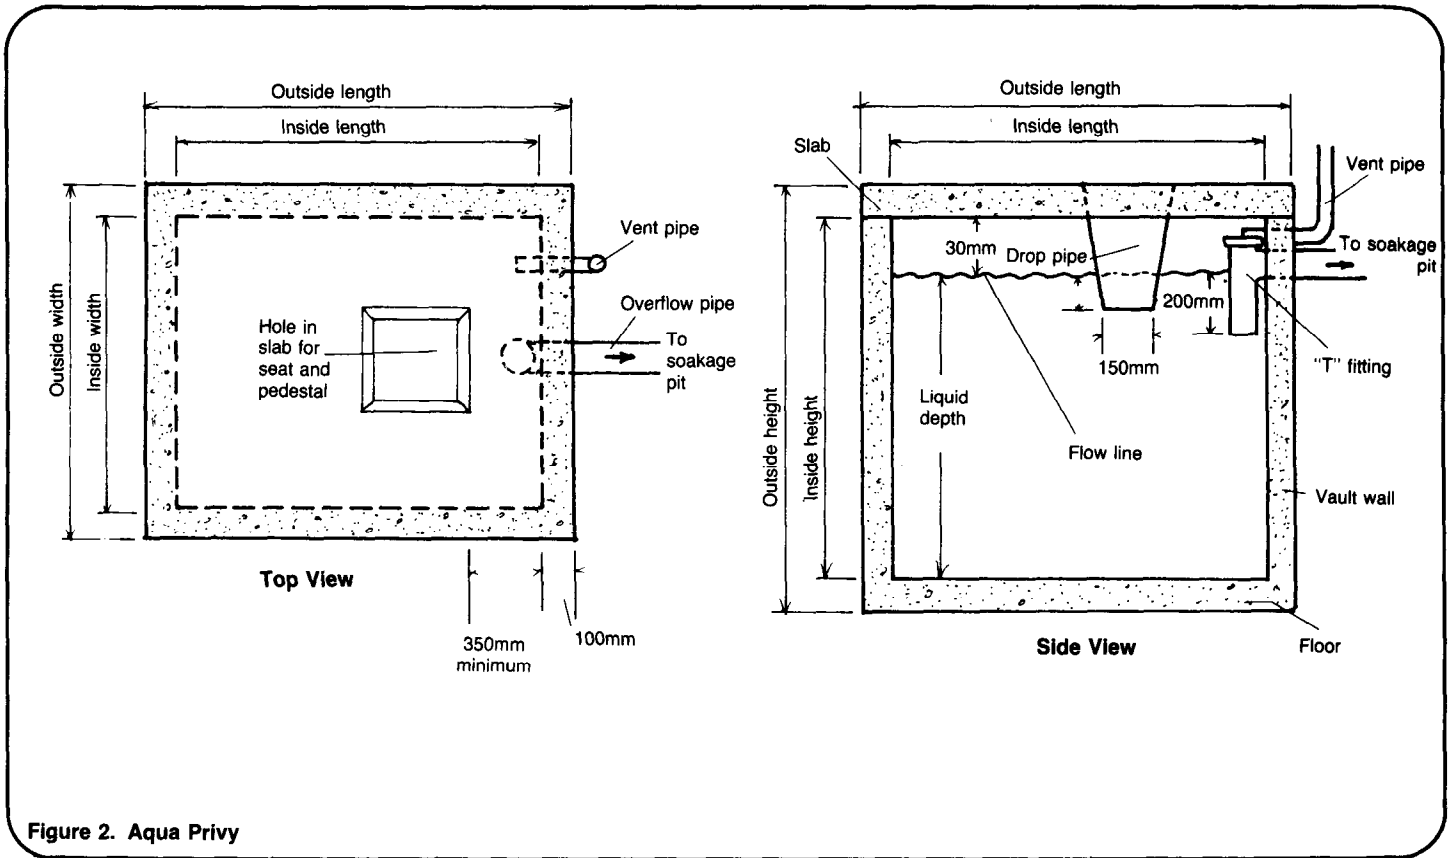

Figure 2. Aqua Privy
2. Design drawings similar to Figures 2 and 3.